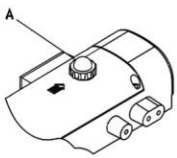

图5 (Fig.5)
(1) 润滑油的注入 (图5&6)
1. Filling lubricant oil: (Fig.5&6)